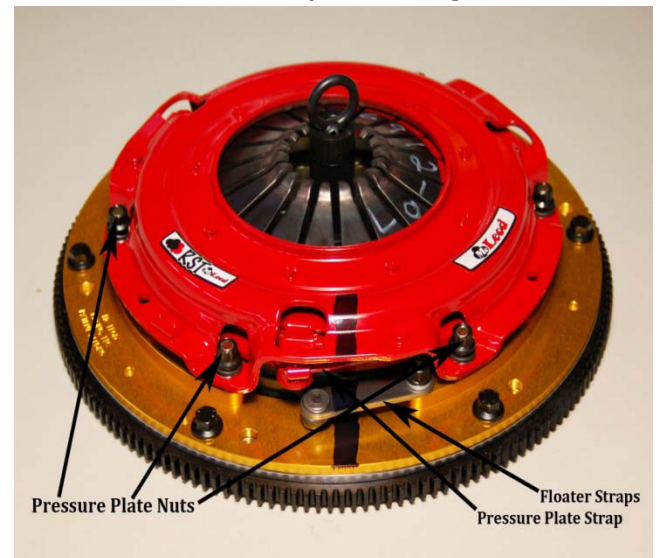

Figure 6
- 9) Install the pressure plate onto the studs on the adapter ring, pay special attention to the alignment of the drive straps on the floater and the drive straps on the pressure plate! Both drive straps must be seen in the same raised opening on the side of the pressure plate. Alignment mark on Adapter ring and pressure plate must line up at this time. Do not offset the drive straps!! Figure 6